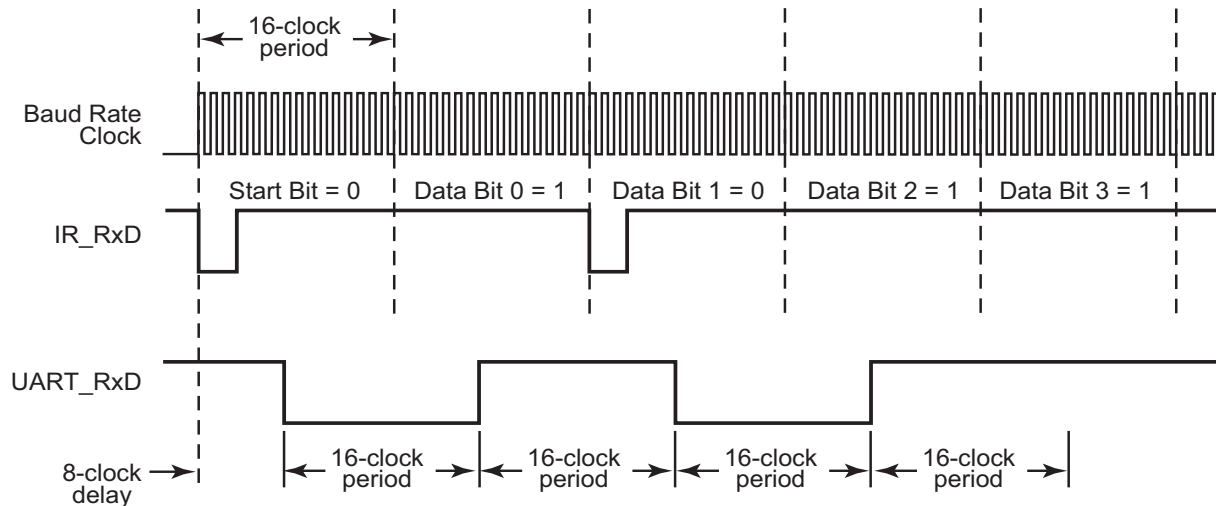

**Figure 38. Infrared Data Transmission**
The data to be transmitted via the IR transceiver is the data sent to UART0. The UART transmit signal, TxD, and Baud Rate Clock are used by the endec to generate the modulation signal, IR\_TxD, that drives the infrared transceiver. Each UART bit is 16 clocks wide. If the data to be transmitted is a logical 1 (High), the IR\_TxD signal remains Low (0) for the full 16-clock period. If the data to be transmitted is a logical 0, a 3-clock High (1) pulse is output following a 7-clock Low (0) period. Following the 3-clock High pulse, a 6-clock Low pulse completes the full 16-clock data period. Data transmission is illustrated in Figure 38. During data transmission, the IR receive function must be disabled by clearing the IR\_RxEN bit in the IR\_CTL reg to 0 to prevent transmitter-to-receiver crosstalk.